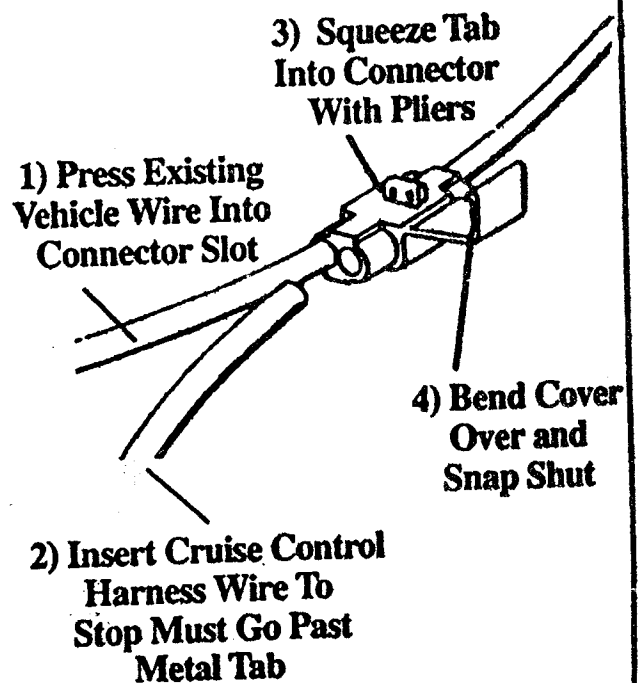

Figure 40
B. If you cannot use procedure A, use a Connector-Self Stripping and attach to a wire coming from a tach signal. Figure 40